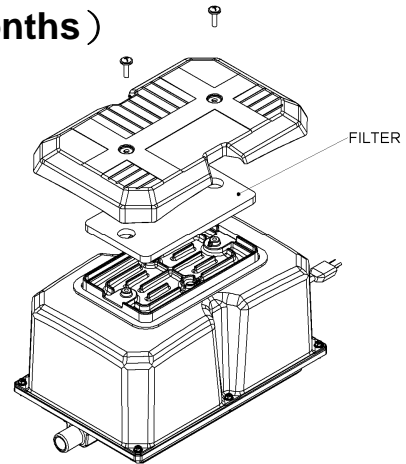

Figure 1
- Loosen the two screws on top. (As shown in Figure1)